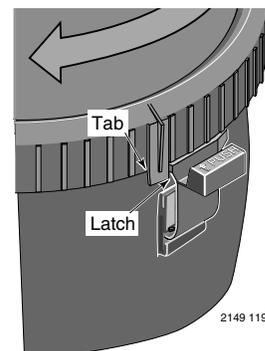

Figure 3 – Rotate Posi-Lok[™] Ring until tab locks behind the safety latch.
1. Securely lock Posi-Lok[™] ring in place by rotating ring **CLOCKWISE** until it “clicks” past the safety latch (see Figure 3). Stop turning as soon as the ring clicks past the latch. The ring may feel slightly loose, but it will tighten up when pump is on and filter is under pressure.
- d. Rotate the Posi-Lok™ clockwise until it locks behind the safety latch (see Figure 3).